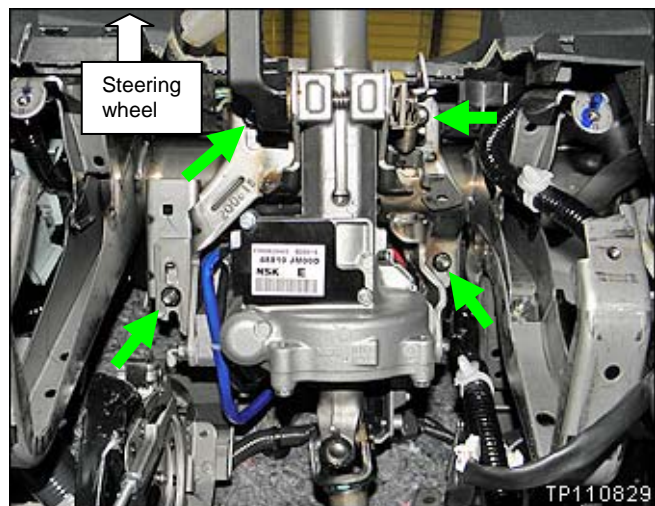

Figure 22
34. Remove the 4 steering column assembly mounting bolts shown in Figure 22.